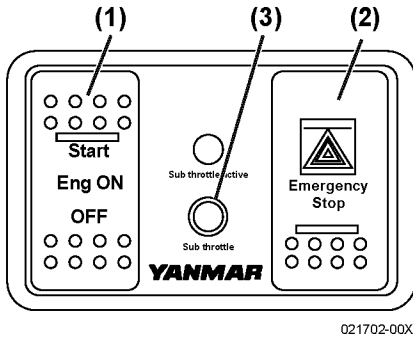

Figure 12
NOTICE: Under normal circumstances, use the ignition switch (Figure 12, (1)) to stop the engine. The engine shuts down suddenly when the upper half of the Emergency Stop switch (Figure 12, (2)) is pushed. Push the bottom half of the switch after the engine has shut down to return the switch to the center.
3. Sub throttle Control (Figure 12, (3)). In the unlikely event that the throttle control fails, the Sub throttle indicator light will flash and the engine speed is controlled the Sub throttle. Engine speed rises when the Sub throttle knob is turned clockwise.